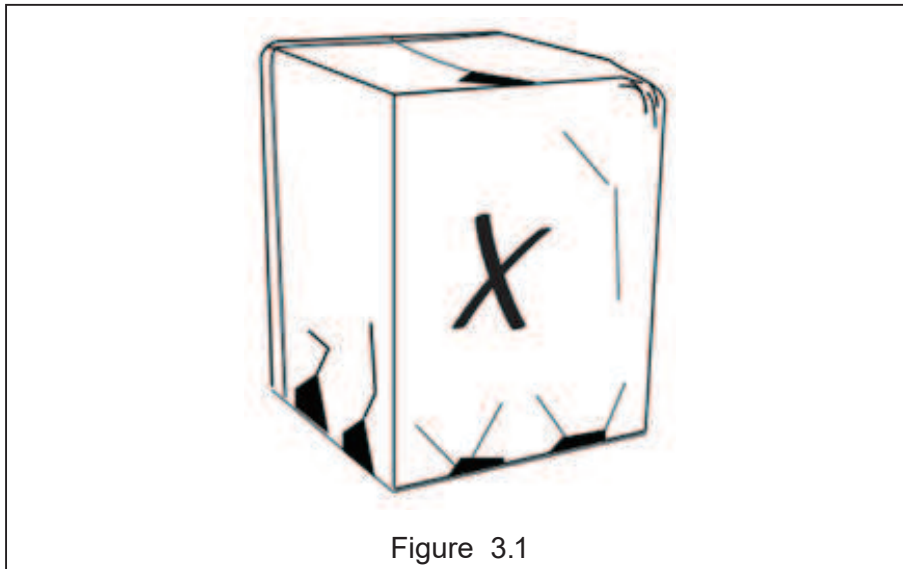

Figure 3.1
- Check whether there is any damage and report any damage to the unit to the manufacturer in time (Figure 3.1)